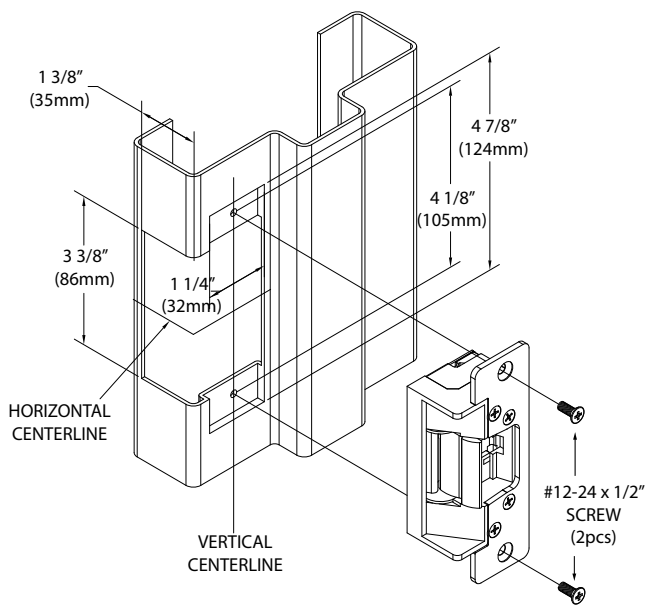

Figure 4.3 ANSI Frame Installation (CX-ED1410)
**Option 2 ANSI Frame Installation (Figure 4.3 & 4.4)**